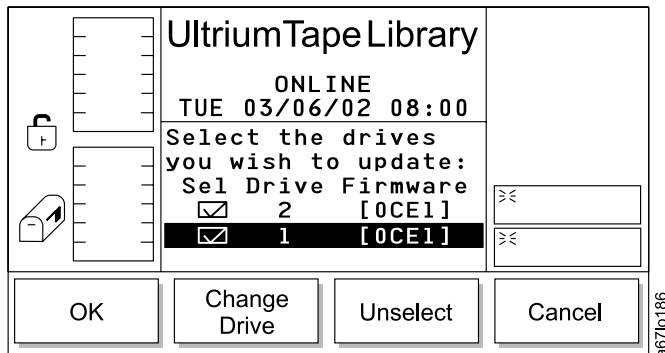

Figure 137. Select Drives Dialog
- If **OK** is selected, the Select Drives Dialog displays (see Figure 137).